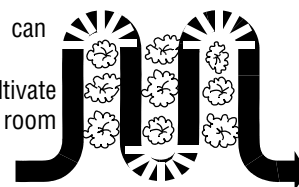

Fig. 4-9
- When cultivating (breaking up surface soil around plants to destroy weeds, see Fig. 4-9), adjust the tines to dig only 1" to 2" deep. Using shallow tilling depths helps prevent injury to plants whose roots often grow close to the surface. If needed, lift up on the handlebars slightly to prevent the tines from digging too deeply. (Cultivating on a regular basis not only eliminates weeds, it also loosens and aerates the soil for better moisture absorption and faster plant growth.)
With planning, you can allow enough room between rows to cultivate (see Fig. 4-9). Leave room for the hood width, plus enough extra room for future plant growth.